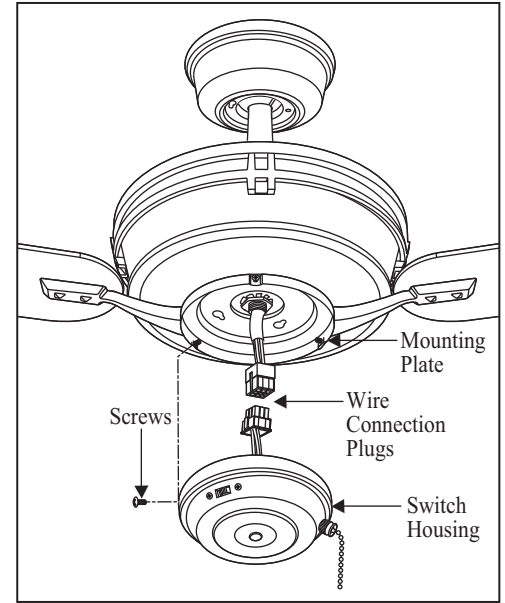

Figure 18
2. Install the switch housing to the mounting plate with screws provided. (Fig. 18)